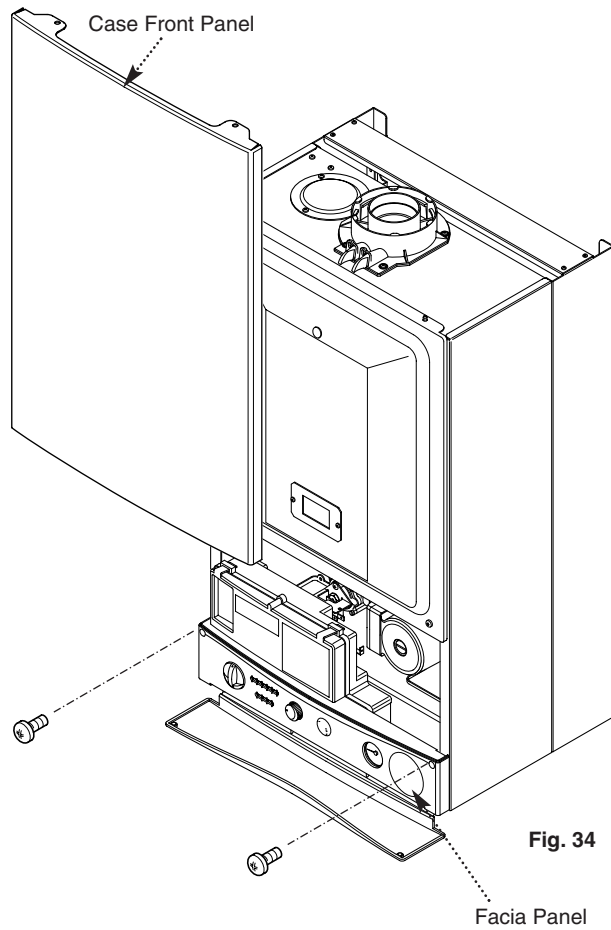

Fig. 34
1. Hinge the facia panel upwards and refit the case front panel. Tighten the securing screws (Fig. 34).